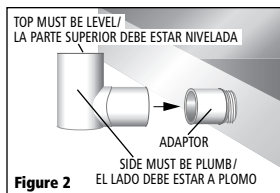

Figure 2
2. Glue Ell onto adaptor. Ell **MUST BE PLUMB**. (**Figure 2**).